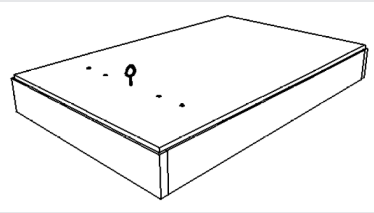

fig 4
3. Fit the screw eye which is taped to the operating rod to the lid 60mm in from the opening end, midway across the width (figure 4).